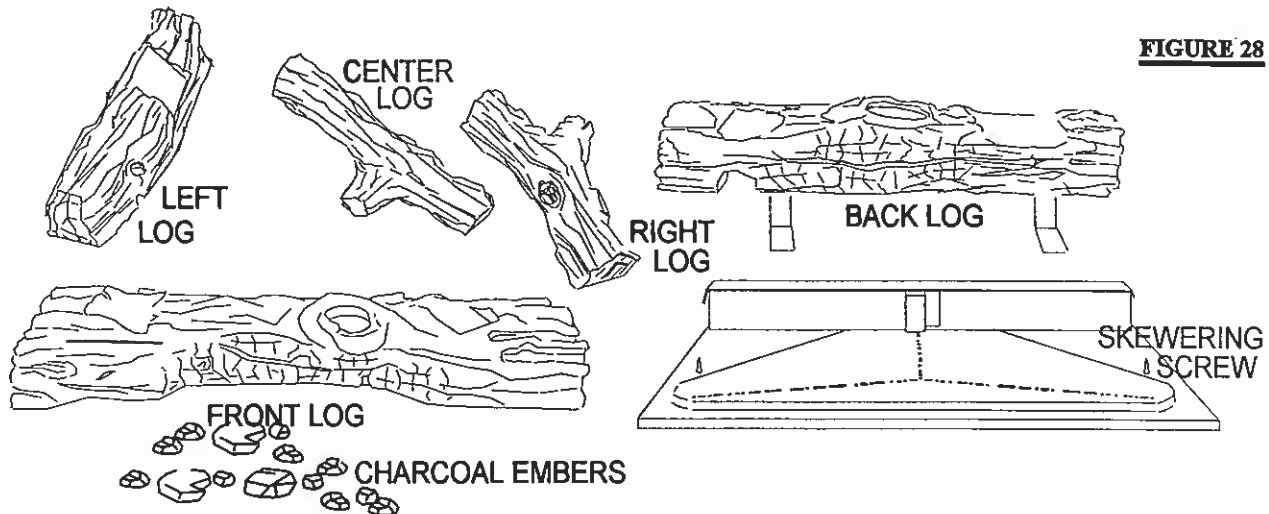

FIGURE 28
2. Place the back log onto the log support brackets located on the rear wall of the combustion chamber. The notch situated at the lower left of the back log should be centered evenly above the pilot assembly. **FIGURE 28.**